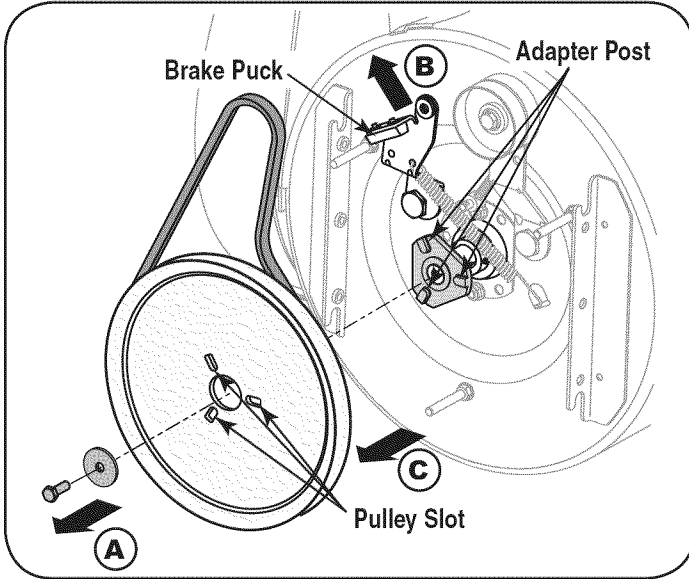

Figure 35
- Block the impeller with a piece of wood to prevent it from spinning and use a 1/2" wrench to remove the hex screw and flat washer from the center of the pulley on the auger housing. See A in Fig. 35.
- Lift the brake bracket assembly out of the pulley groove (B in Figure 35) and slide the pulley assembly off the posts of the auger pulley adapter (C) to remove the old belt.
- Turn the pulley as necessary to align its three slots approximately with the posts of the pulley adapter, then pivot the brake bracket assembly away from the pulley groove. While aligning the pulley slots and adapter posts, push the auger pulley fully onto the adapter. Refer to Figure 35. Ensure the brake puck of the brake bracket assembly aligns and is fully seated in the pulley groove.
NOTE: If the pulley adapter was removed with the pulley, align the splines of the pulley adapter and auger input shaft, and push the pulley and adapter onto the input shaft. Refer to Figure 35.